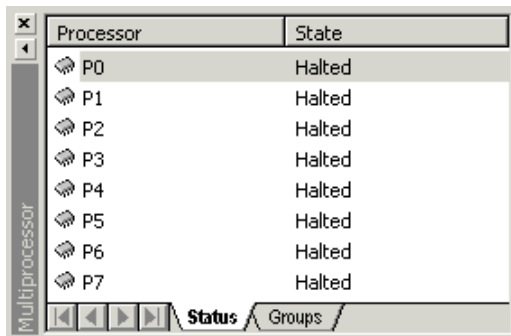

Figure 2-40. Multiprocessor Window: Status Page
The **Multiprocessor** window appears in the lower-right corner of the VisualDSP++ main window, as shown in Figure 2-40.
You can easily view data from any processor in the current session. Displaying data from a different processor in the same window is called *changing focus*. On the **Multiprocessor** window's **Status** page (Figure 2-40 on page 2-54), the first processor listed, **P0**, is highlighted and currently has focus by default.
1. On the **Multiprocessor** window's **Status** page (Figure 2-40 on page 2-54), click **P1**.
4. Select different processors from the **Multiprocessor** window's **Status** page (Figure 2-40 on page 2-54) and notice that both **Disassembly** windows change focus to the currently selected processor. Also note that the `ax0=0x1234;` instruction is present only when the **Disassembly** windows are focused on P1.
- On the **Multiprocessor** window’s **Status** page (Figure 2-40 on page 2-54), select processor **P1**. Notice that the bottom **Disassembly** window changes focus to processor P1 and that the top **Disassembly** window stays focused on processor P0.
1. On the **Multiprocessor** window's **Status** page (Figure 2-40 on page 2-54), select P0 to set focus to processor P0.